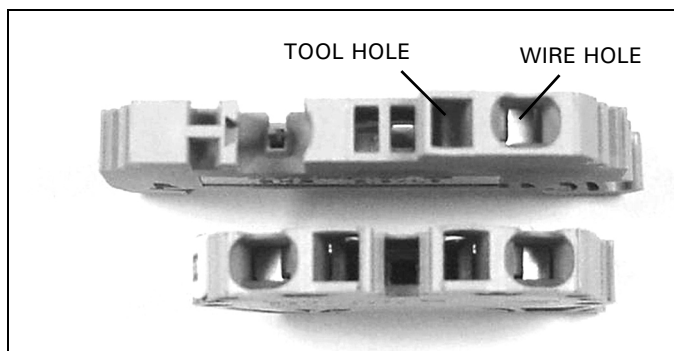

Figure 15. Tension Clamp Terminal Blocks.
Step 1: Figure 15 shows two tension clamp terminal blocks.